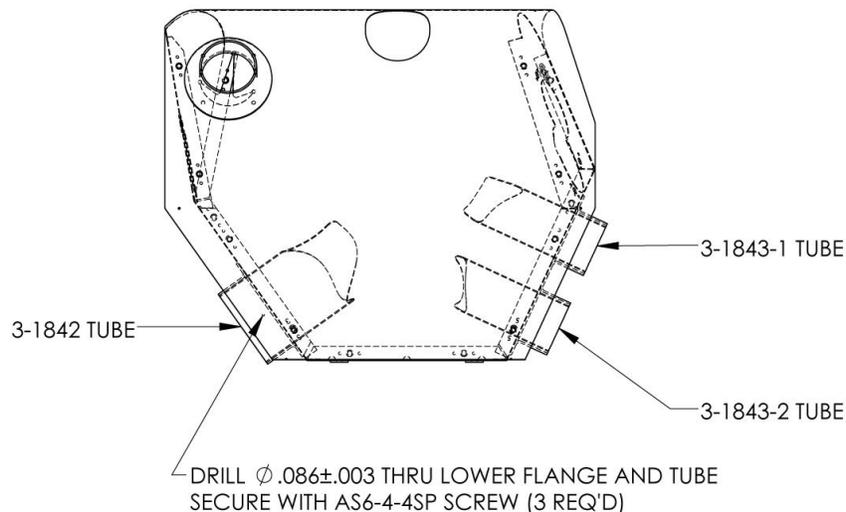

Figure 1, Insert Tubes
6. Insert 3-1842, 3-1843-1, and 3-1843-2 tubes into flanges as shown in figure 1. Tubes to be snug in flanges and positioned ¼ inch away from the exhaust tubes (trim insert tubes for clearance as required). Drill $\varnothing.098\pm.003$ hole thru flange and insert tubes (drill from bottom). Secure insert tubes in flange with #4 x ¼ PK screw (1 screw per tube).